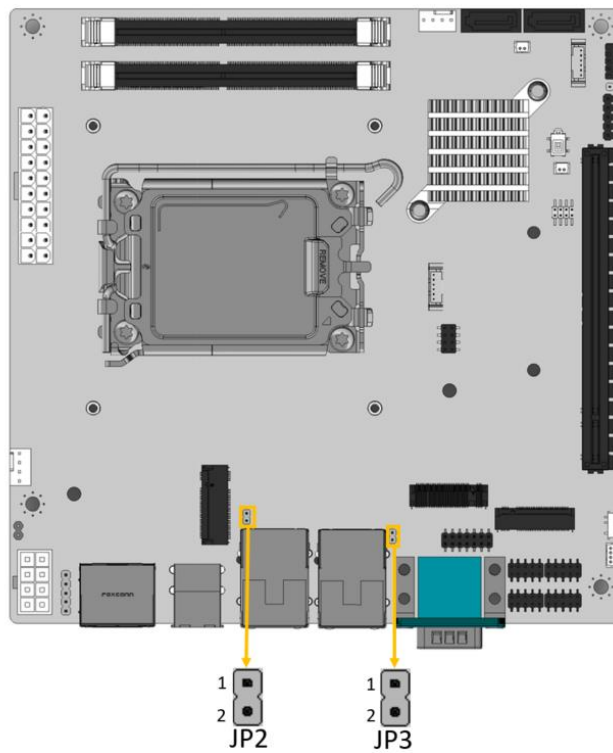

Figure 3-13: LAN LED Connector Locations
- CN Location:** See **Figure 3-13**